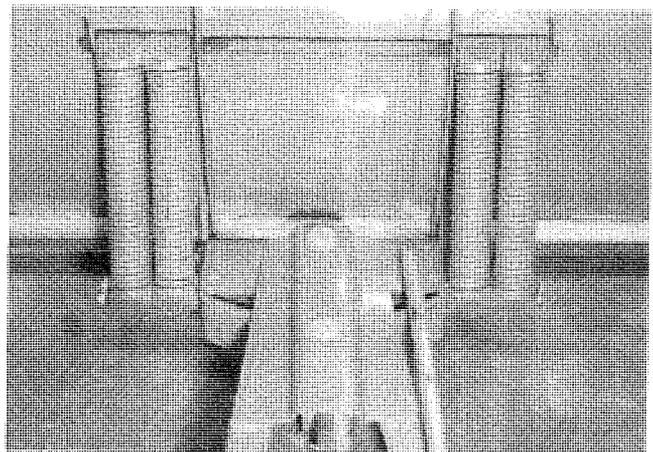

FIG. 2
Referring to Fig. 2, insert Rod, item 13, through the rear hole of the sector. On each rod end install 2